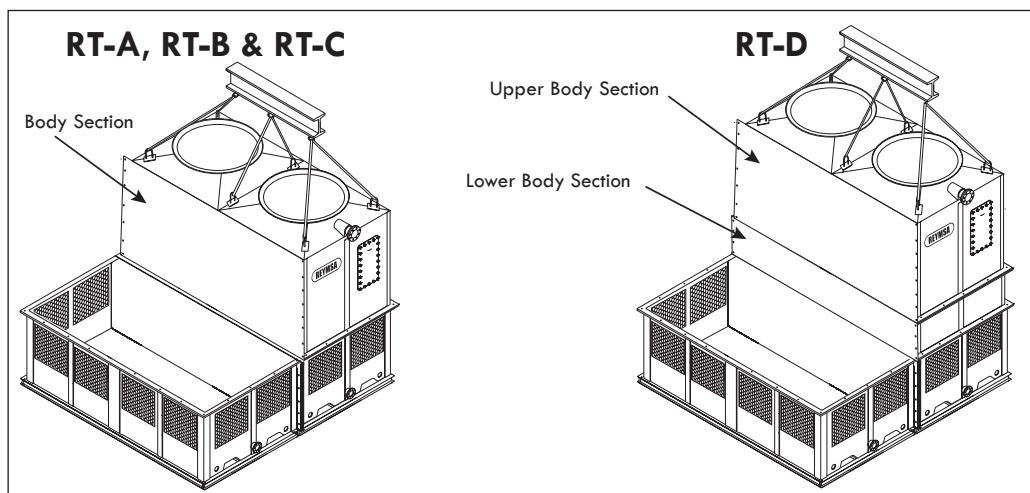

Figure A-30: Body section 1 (Upper Body section 1 for RT-D) on a Quadruple Fan Tower
- K.** Assemble the body section #1 (Upper Body section 1 for RT-D) with the basin section #1 (Lower Body section 1 for RT-D), making sure that the bolt holes on body section #1 are aligned with the perforations on basin section #1, then bolt down and secure the horizontal flanges with the stainless steel nut and bolt supplied by REYMSA. See figure A-30 (wait the final tight until two upper section are on place and you can tighten the vertical flanges as well). Make sure that the hot water inlet and the cold water outlet are on the same side.